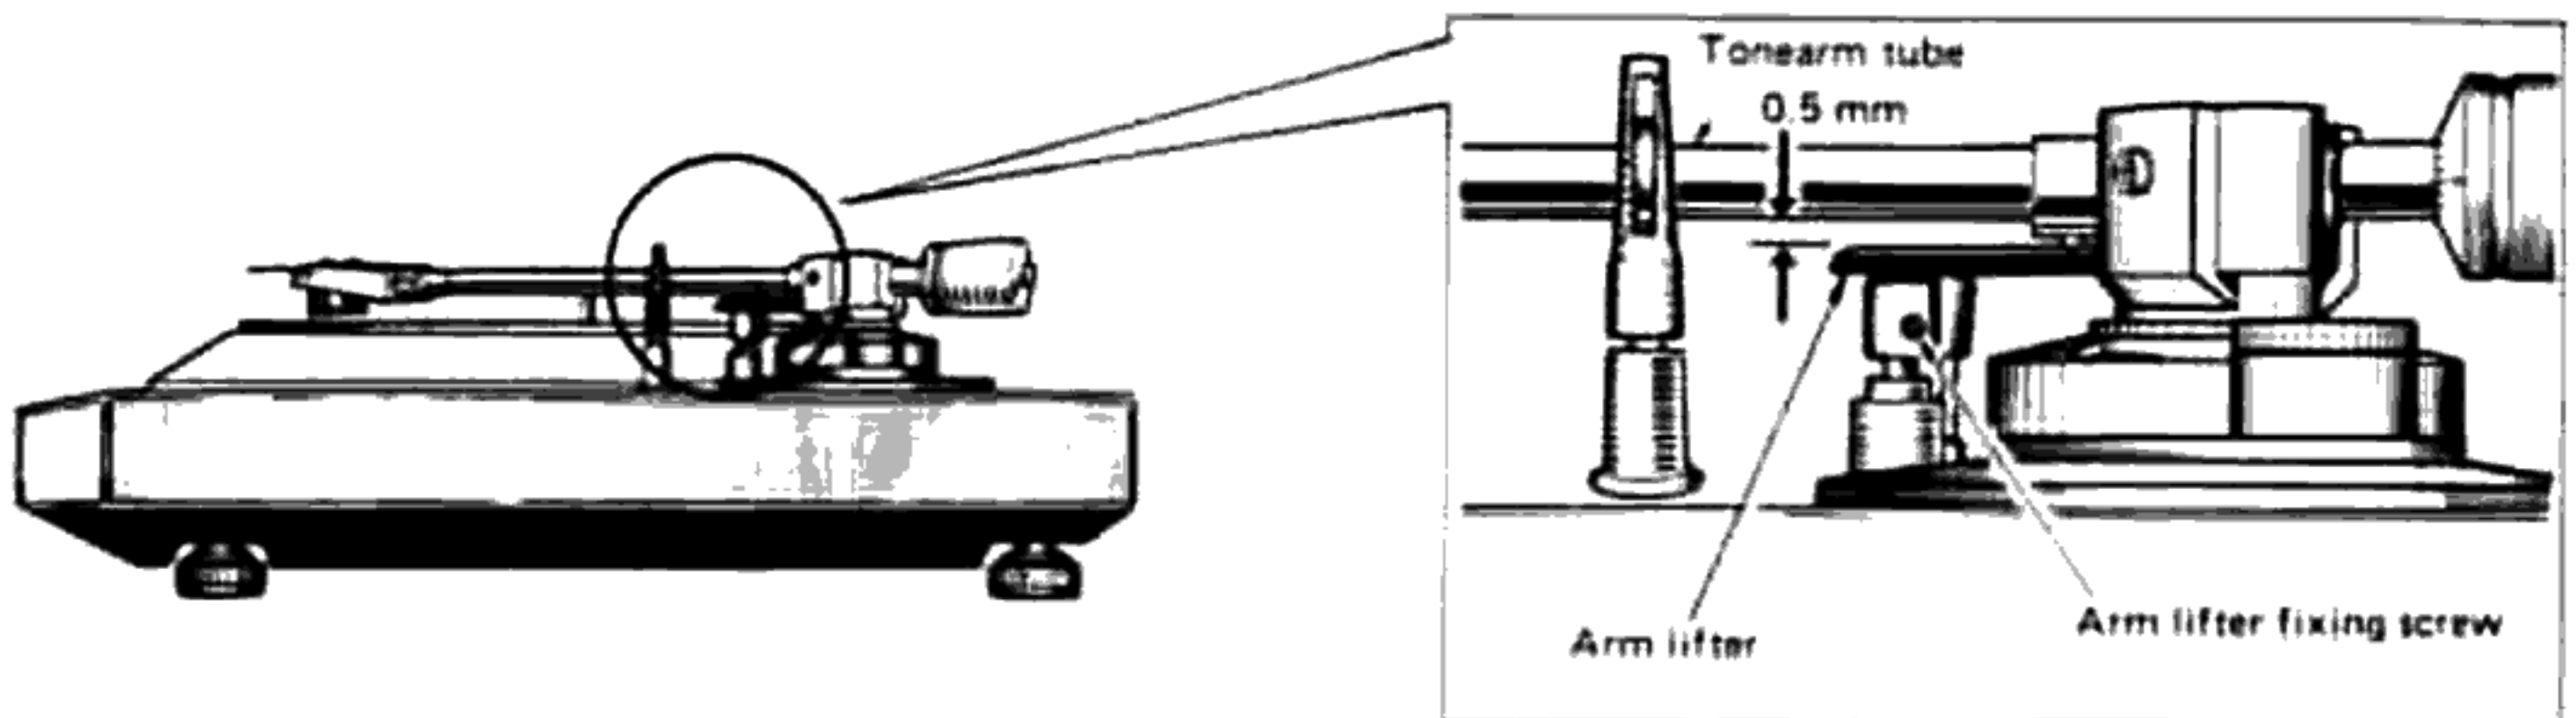

Fig. 6 Arm lifter height
3. Adjustment of the Arm Lifter Height (Fig. 6)